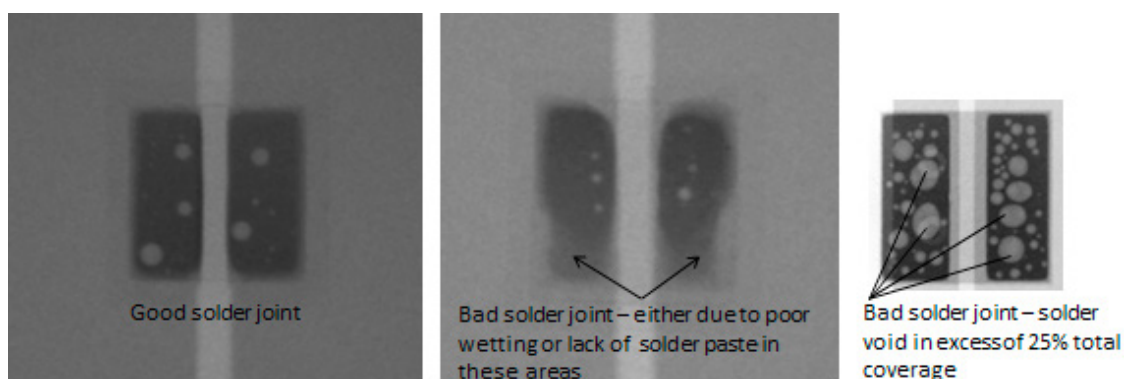

Figure 38. Example of good and bad x-ray result.
1. Solder voids – perform x-ray inspection. Keep solder void to less than 25% coverage (Figure 38).